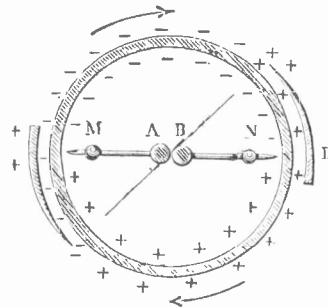

FIG. 111. DIAGRAM OF ACTION OF HOLTZ MACHINE
The operation of the Holtz machine is thus described by Prof. Sylvanus P. Thompson, in his translation of Guillemin's "Electricity and Magnetism." In Fig. 111, the paper armatures on the fixed plate are represented by two segments (D). (A) and (B) are the conductors terminated by points (M) and (N) corresponding to the metallic combs of the machine. The movable plate is represented by circular lines so as to avoid confusion. The arrow shows the direction of rotation of the plate, which, as will be seen, is opposite to the direction in which the tongue of paper on each paper armature extends.